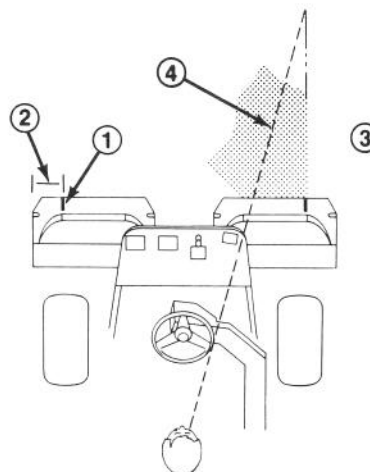

Figure 24
2. Either place a strip of white tape or paint a line onto each basket paralleling the outer edge of each basket (Fig. 24)
3. Overlap a minimal amount with the previous cut on return passes. To assist in maintaining a straight line across the green and keep the machine an equal distance from the edge of the previous cut, establish an imaginary sight line approximately 6 to 10 feet ahead of the machine to the edge of the uncut portion of the green (Fig. 24 & 25). Some find it useful to include the outer edge of the steering wheel as part of the sight line; i.e. keep the steering wheel edge aligned with a point that is always kept the same distance away from the front of the machine (Fig. 24 & 25).